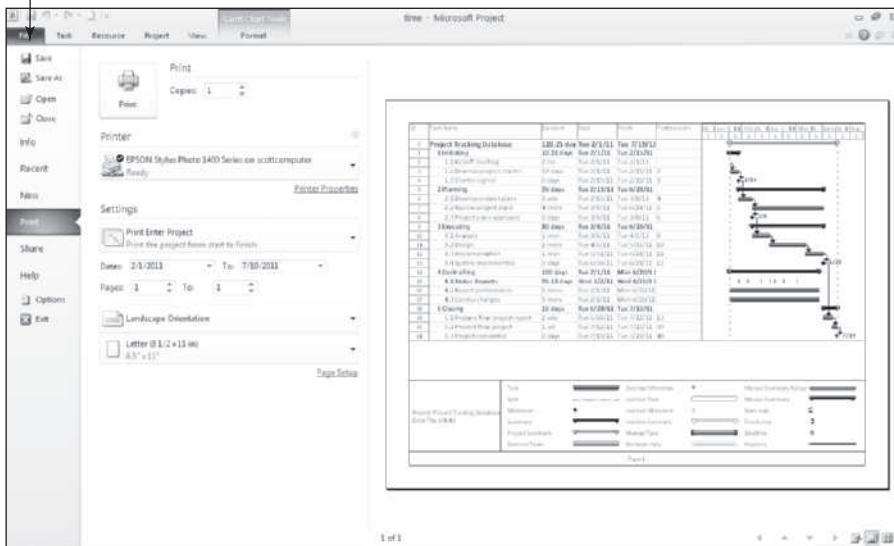

FIGURE A-27 Project Tracking Database file in the Backstage
8. *Preview and save your file.* Click the File tab, and then select **Print** to preview your file in the Backstage, as shown in Figure A-27. If you need to make changes to the file before printing, click the Task tab to make changes, and then save your file again by clicking the **Save** button on the Quick Access